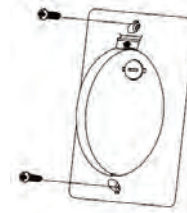

Fig. 17
Step 1. Select a location to install your handset control holder, you could install the holder as shown. (Fig. 17)